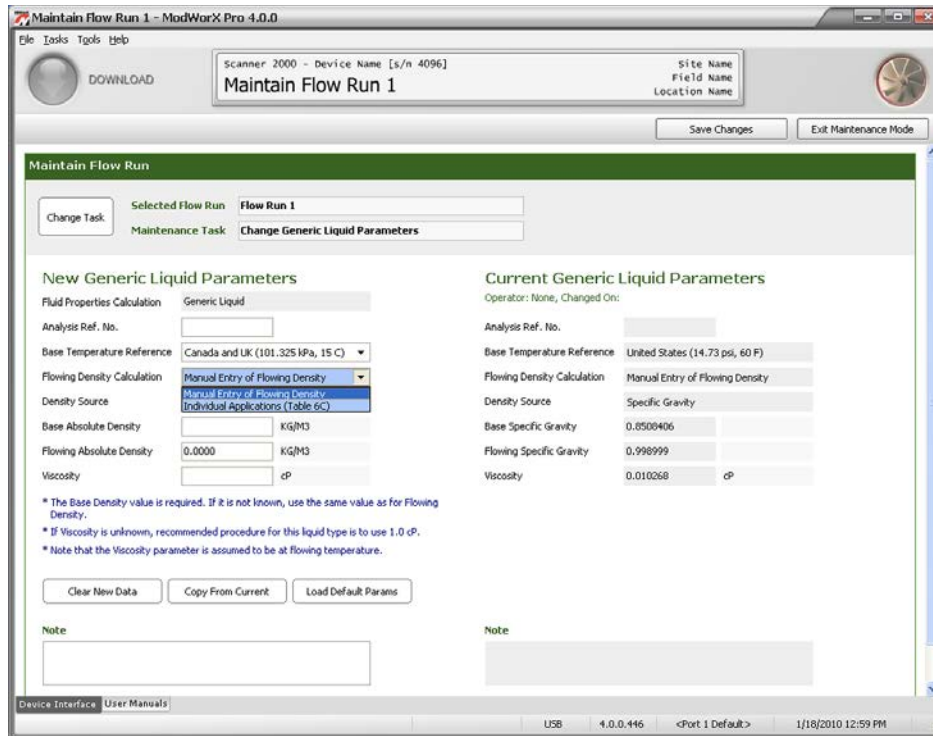

Figure C.6
6. Select the method for calculating flowing density in the Flowing Density Calculation field (Figure C.6, page C-6). Select either *Manual Entry of Flowing Density* or *Individual Applications* (Table 6C).